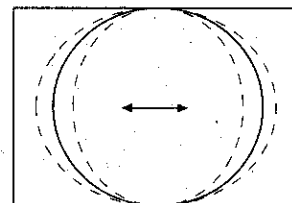

Fig. 1
- d) Adjust the horizontal location to obtain picture centering (fig. 1).